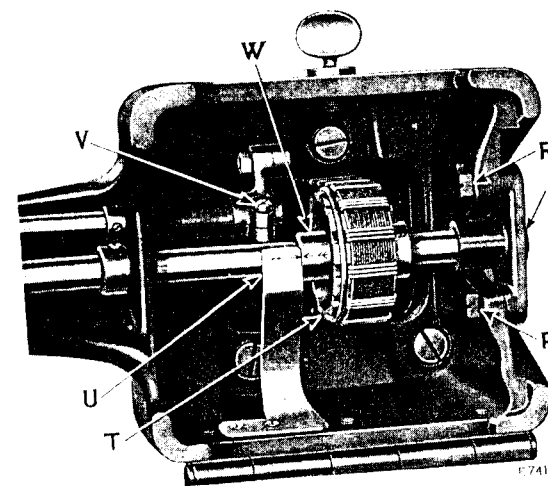

Fig. 21. Underside of Machine, Showing Arrows on Plate and Collar for Determining Correct Position of Hook Driving Shaft when Replacing Belt
If the feed dog strikes the throat plate, tip the machine back and loosen the pinch screw (V, Fig. 21) of the feed driving rock shaft crank at the end of the rock shaft, then set the feed dog so that it will not strike when the longest stitch is made, and re-tighten the pinch screw (V).
Take out the two screws (R, Fig. 21) which hold the right end bearing of the hook driving shaft in position and remove the bearing (S, Fig. 21).
Slide the arm shaft connection belt off the lower pulley (T, Fig. 21). Remove the feed regulating spindle head and balance wheel. Loosen the arm shaft bushing (back) screw at the back of the arm and remove the bushing. Lift the belt up through the arm cap hole as far as possible and draw it out through the space normally occupied by the bushing.
Owing to the fact that the sewing hook makes two revolutions to one revolution of the arm shaft, and that the feed lifting eccentric is on the hook shaft, it is possible to have the sewing hook correctly timed without having the feed eccentric correctly timed. To overcome this, the plate (U, Fig. 21) is attached to the underside of the bed of the machine. This plate is marked with an arrow at its forward end and directly alongside of the plate is the collar (W, Fig. 21) mounted on the hook shaft, which is also marked with an arrow. When replacing the belt, replace the arm shaft bushing and securely fasten it in position by the screw at the back of the machine, replace the feed regulating spindle head and the balance wheel and place the belt on the upper pulley, then turn the balance wheel over toward you until the thread take-up lever is at its highest point. Then turn the hook driving shaft with the fingers until the two arrows, one on plate (U) and the other on the collar (W), are directly in line. Now, without disturbing either the arm shaft or the hook driving shaft, slip the belt over the lower pulley (T, Fig. 21). The feed will then be correctly timed with the needle bar. Then replace the right end bearing (S) of the hook driving shaft and securely fasten it in position by means of the two screws (R).